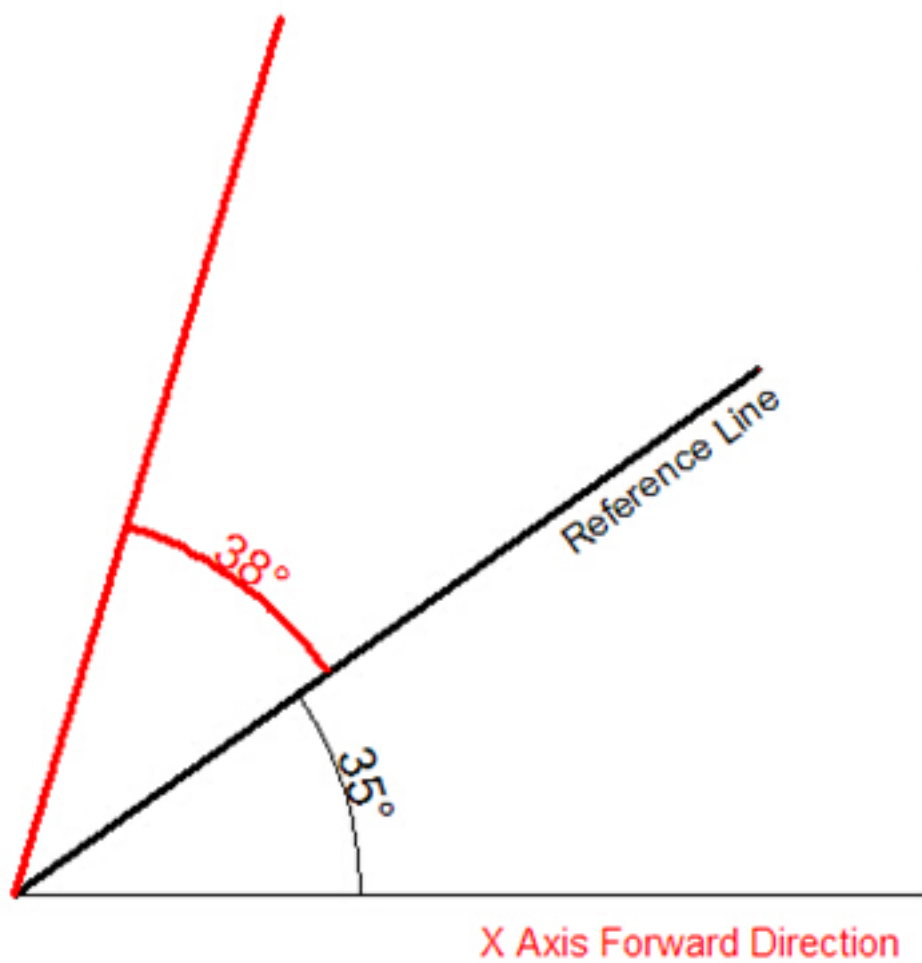

Figure 1-2
**To draw the red line in Figure 1-2, the steps as below:**